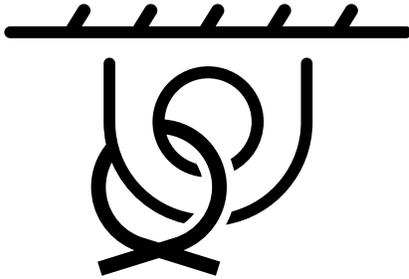

Figure 4. Tie-Down Symbol
1. Locate the **tie-down symbols** (Figure 4) on each side of the trowel.